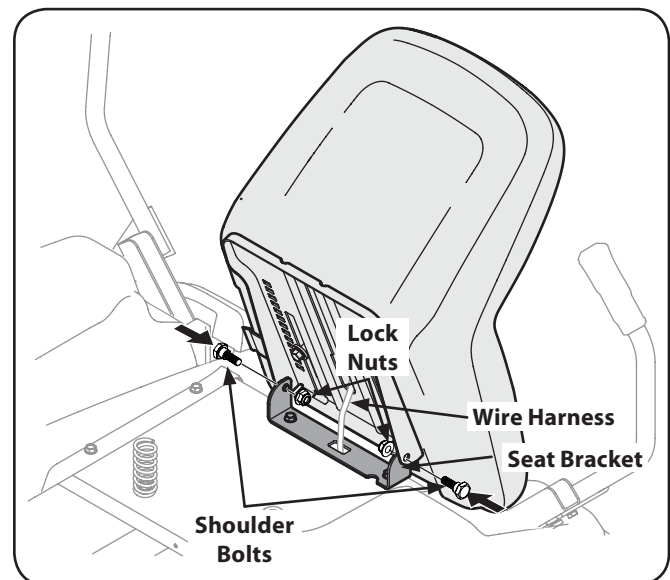

Figure 3-6
3. Rotate the seat into position and secure the seat into place with the previously removed shoulder bolts and lock nuts. Be careful not to crimp or damage the wire harness while installing the seat. See Fig. 3-6.